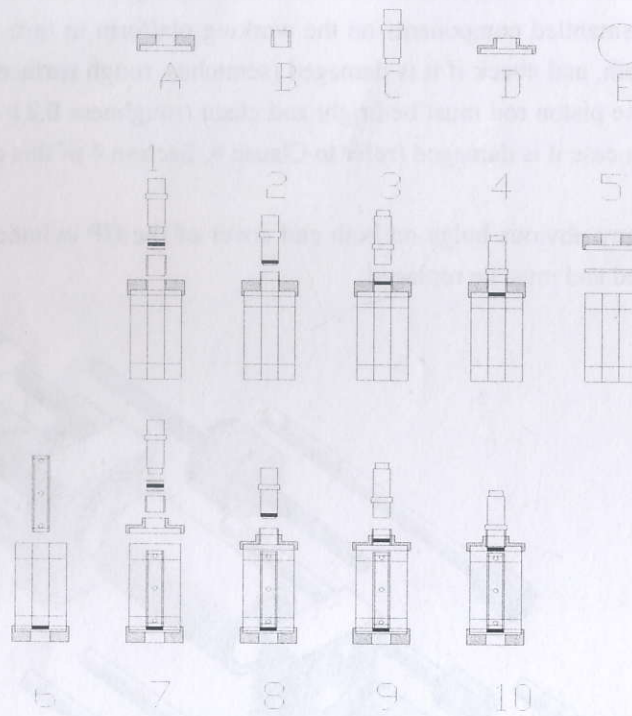

Fig 6 – Sketch drawing for HP Seal Ring Assembly Procedure
- 9) Special tools should be used for assembly purpose when replacing seal rings (supplied together with the spare parts attached with the machine). Take out the special tools from the Spare Parts Container and carry out assembly with the tool which contains 5 parts (A, B, C, D, E) indicated in Fig 6.